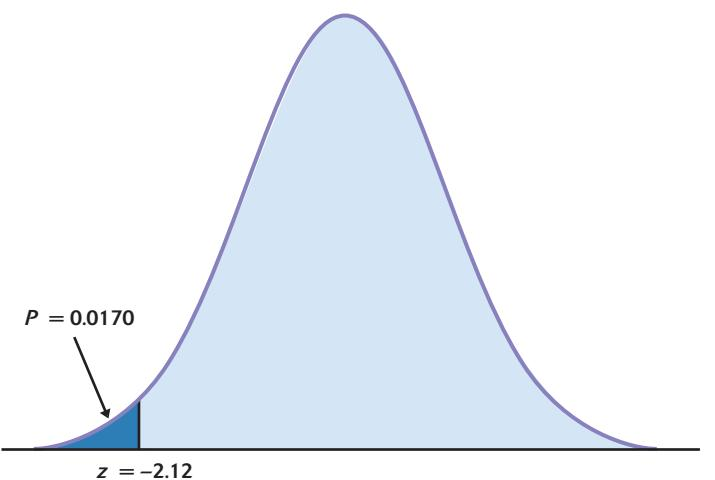

FIGURE 6.10 The P -value for the one-sided test in Example 6.14.
Step 3: P-value. Because H_a is one-sided on the low side, large negative values of z count against H_0 . See Figure 6.10. From Table A, we find that the P -value is